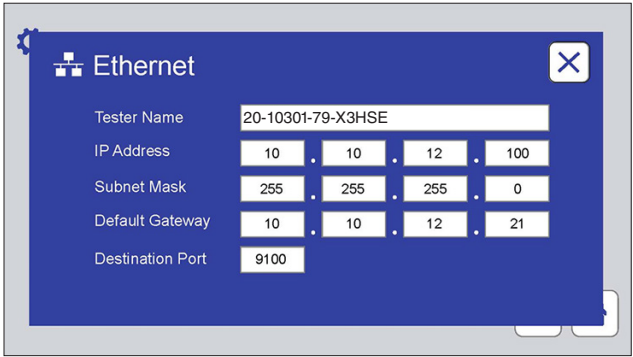
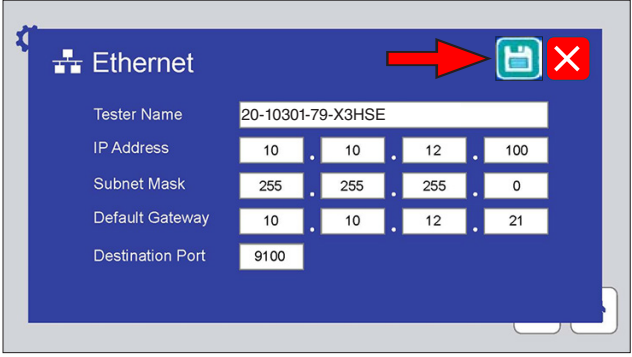

Figure 10.7q: This screen displays and provides text boxes to enter ethernet connection parameters.
Figure 10.7t: Touch the save icon to save any changes to Ethernet parameters.
- o Ethernet (Figure 10.7q through Figure 10.7t).